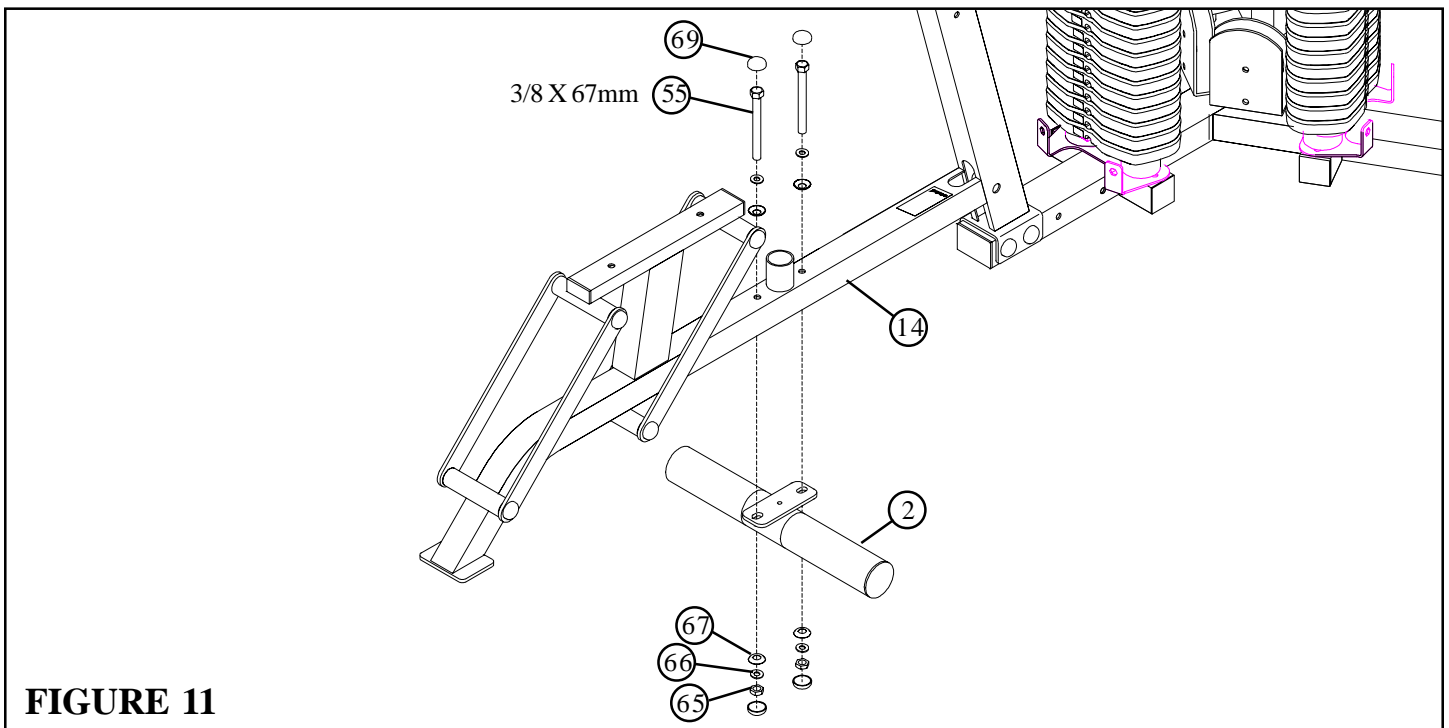

**FIGURE 10**
- Insert four 5-1/2" PIVOT SHAFTS (41) into the LAT/LOW FRAME (14) and the LAT/LOW SEAT (13) as shown in FIGURE 10.
- **SECURELY** assemble four LAT/LOW PLATES (19) to the LAT/LOW SEAT (13) and to the LAT/LOW FRAME (14) using eight BLACK RH CAPS (68), four 3/8 X 164mm BOLTS (61), eight 3/8" SAE WASHERS (66), eight 3/8" RH WASHERS (67) and four 3/8" LOW HEIGHT LOCK NUTS (65) as shown in FIGURE 10.